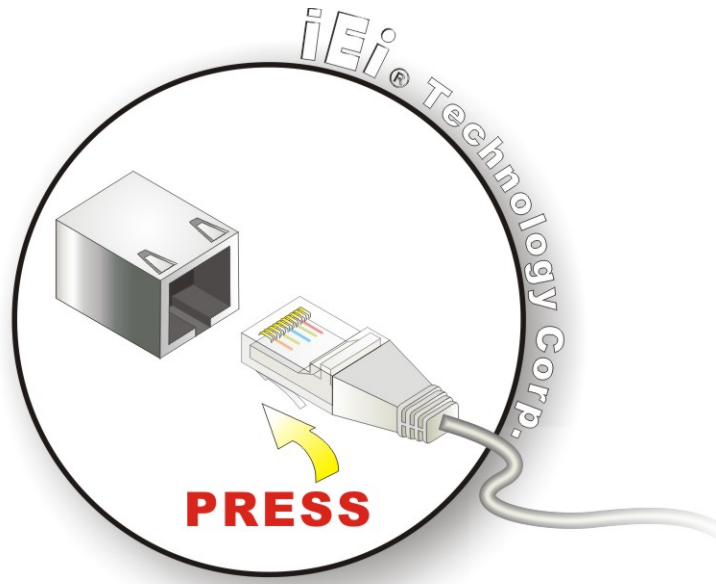

Figure 5-18: LAN Connection
Step 2: Align the connectors. Align the RJ-45 connector on the LAN cable with one of the RJ-45 connectors on the IMB-Q354. See **Figure 5-18**.